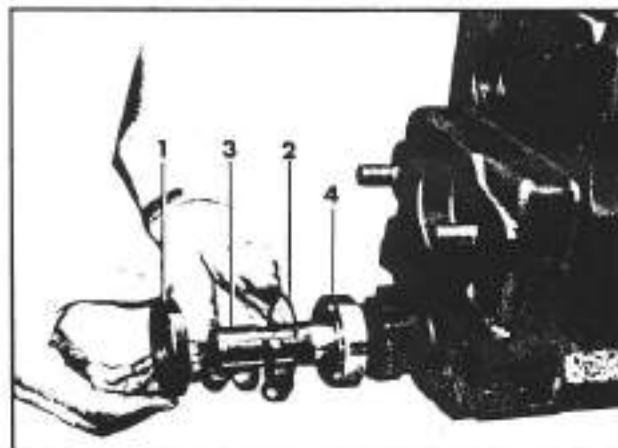

Fig. 3-37. Removal of the power take-off shaft
- n. Remove the oil seal (1; fig. 3-37) and the retaining ring (2; fig. 3-37) from the power take-off shaft (3; fig. 3-37) and, tapping with a wooden mallet from the inside, extract the shaft with its relative bearing (4; fig. 3-37).